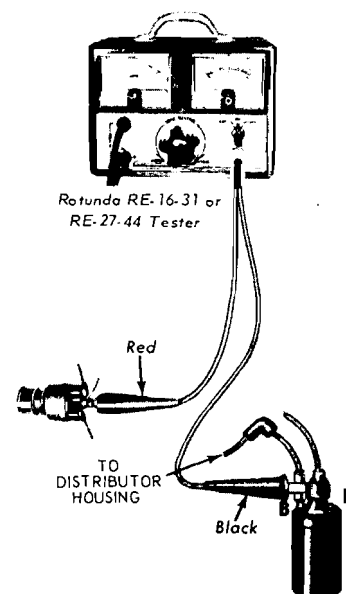

FIG. 7—Resistance Wire Test
1. Connect the voltmeter leads as shown in Fig. 7.